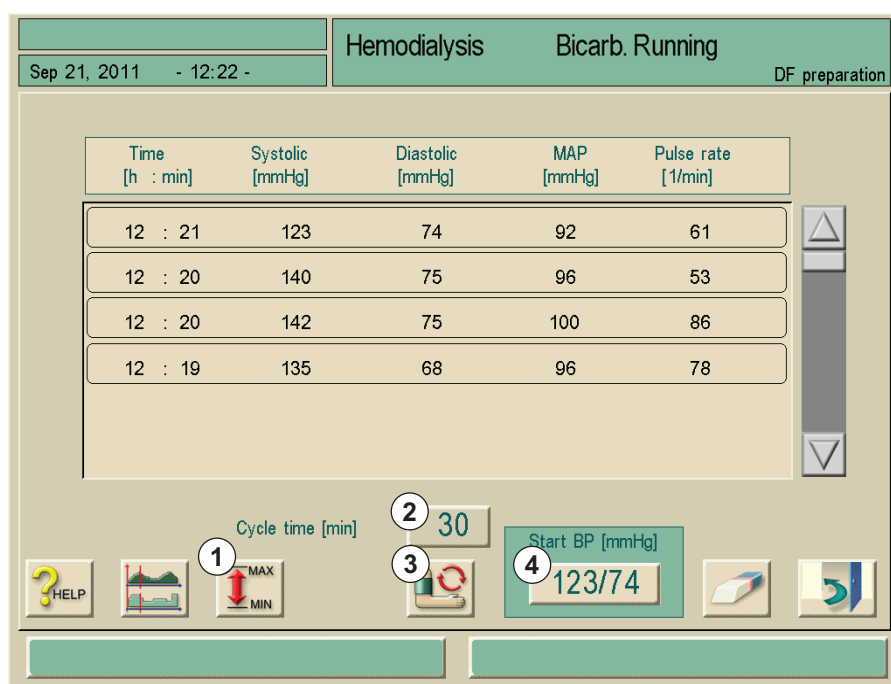
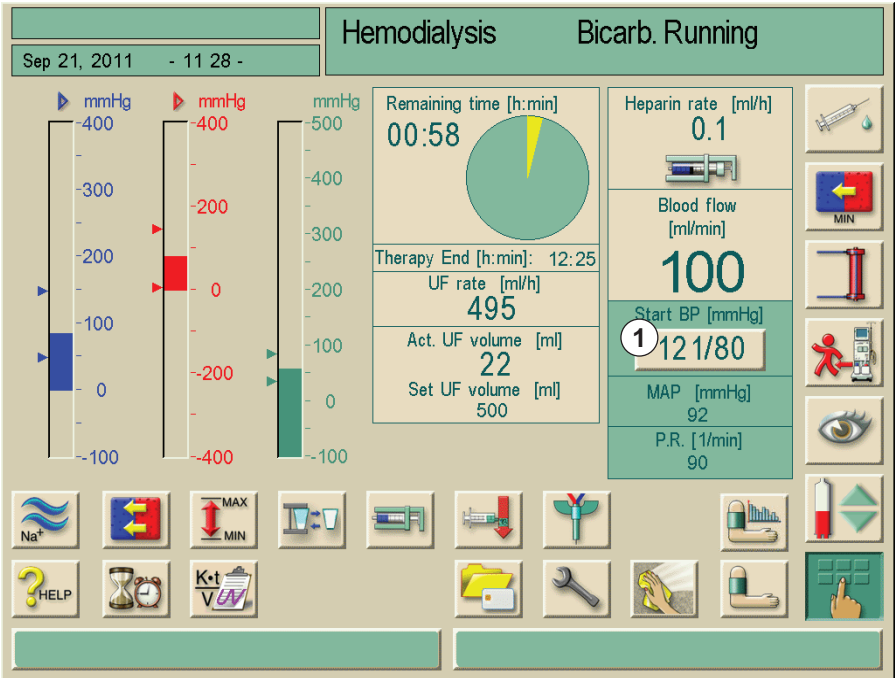

Fig. 11-6 "ABPM main view" screen
Fig. 11-8 "Therapy" screen
1. Touch field 1 on the "Therapy" screen (Fig. 11-8) and field 4 in the "ABPM main menu" window (Fig. 11-6 "ABPM main view" screen (179)).
1. Touch icon in ABPM main window (Fig. 11-6 "ABPM main view" screen (179)).